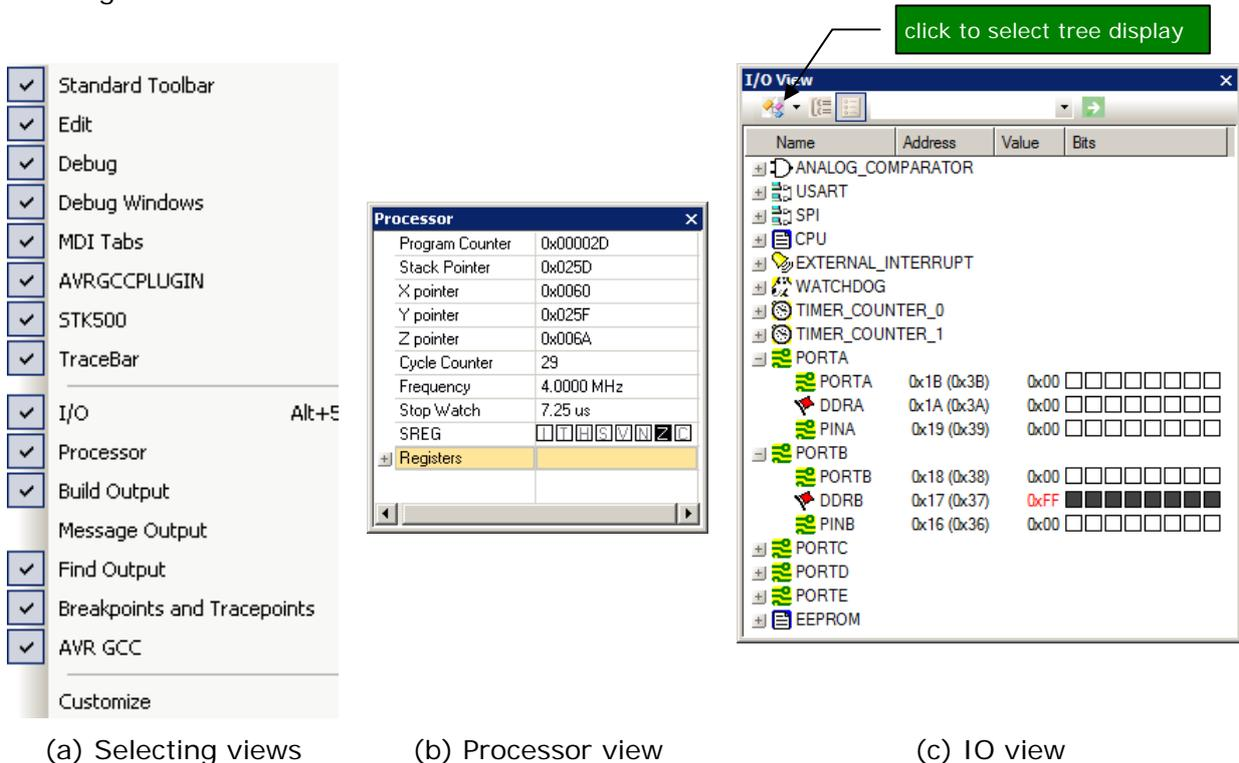

Figure 6: Debugging views.
- AVR Studio lets you examine the contents of CPU registers and IO ports. To enable these views, right click on the menu bar at the top and select 'I/O' and 'Processor' options. Refer to Figure 6.